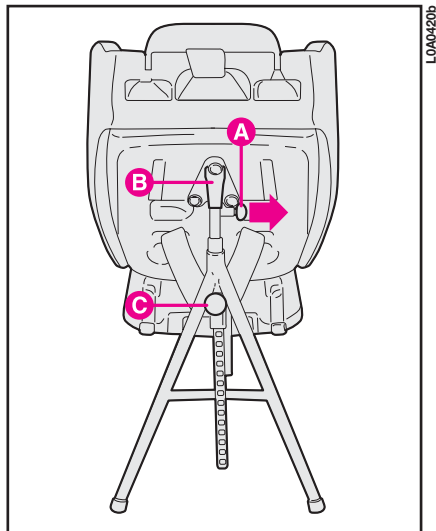

fig. 84
– fit the supporting foot into support **B** (fig. 84), secured on the child's seat back; to do this, pull knob **A** (fig. 84) outwards, fit the foot into the support, release knob **A** and push the foot upwards until the locking pin clicks;
– fully loosen knob **C** (fig. 84) and extend both support legs until they rest on the car floor; tighten knob **C** in one of the preset holes.